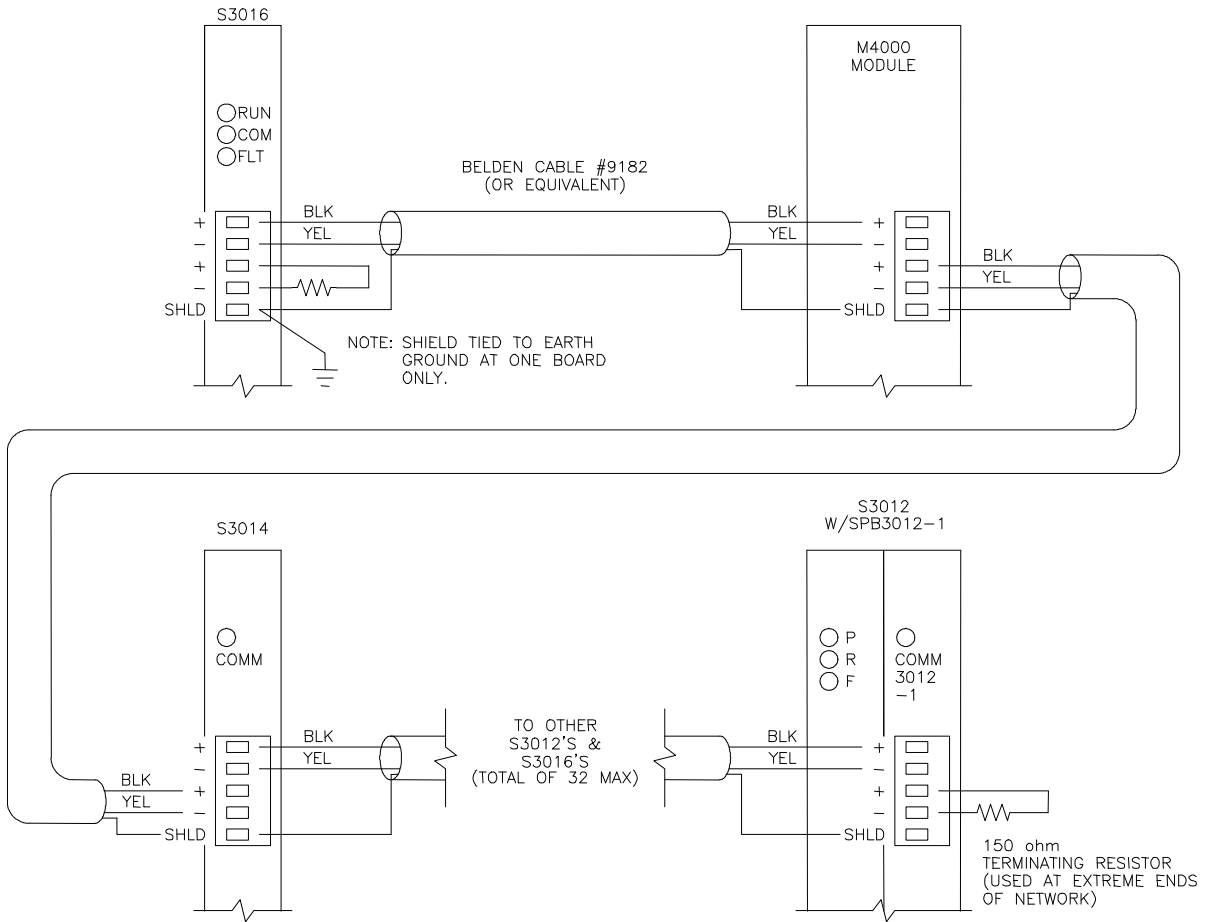

Figure 2.1 – Typical Network Wiring
Refer to figure 2.1 for a typical schematic of the network and for the pin outs of the network interface connectors. When wiring the network, the following rules must be followed:
- 4) The two extreme ends of the network should be terminated with a 150 ohm resistors as shown in figure 2.1.